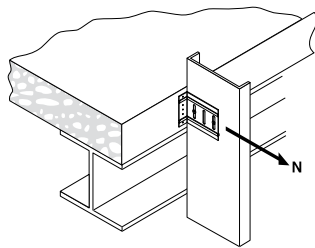

Figure 6: Normal weight concrete
- Allowable load based on a safety factor of 5.0 in direction shown in Figure 6 for attachment of deflection slip clip to 4000 psi Normal Weight Concrete Slab.